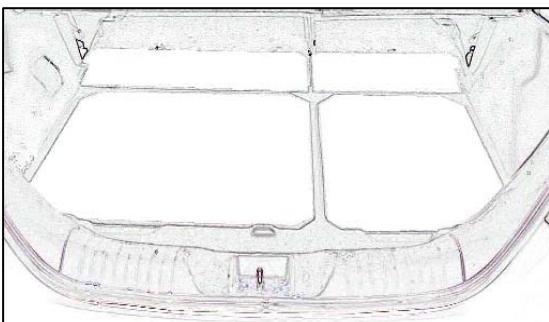

Figure 6
8. Fold down the rear seats, place a cover sheet or rag over the trim to protect it and slide the organizer into the rear space up against the back of the seat brackets. **See Figure 6**